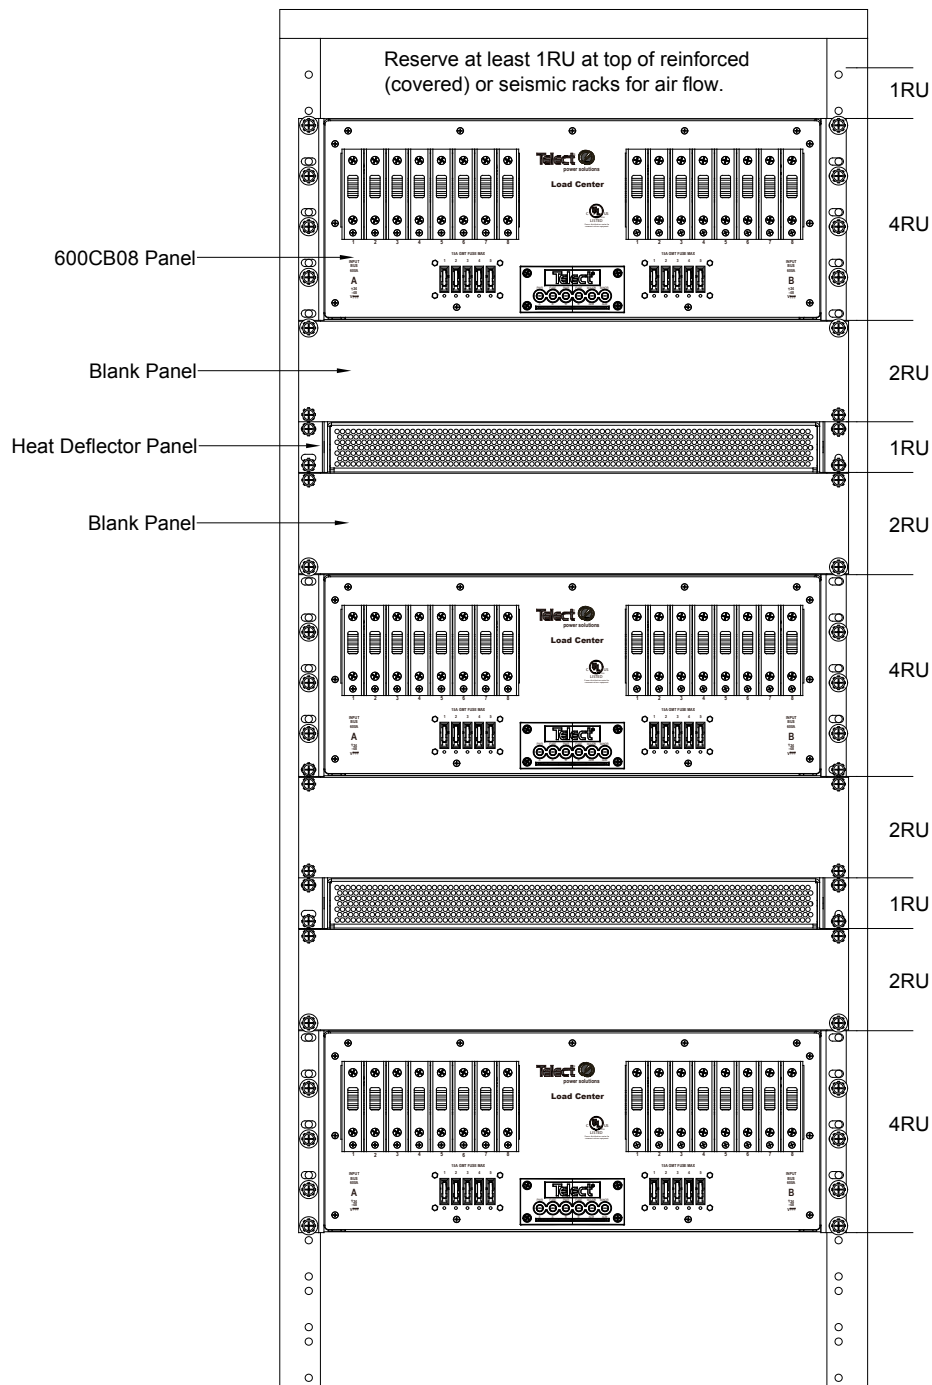

Figure 6 - Heat Management for Multiple Load Centers in a Single Rack
3. Tighten the screws to 35 in.-lb (4.29 N•m). Telect recommends using a seismic rack for best rigidity. Also, If you intend on installing more than one panel per rack, you need to plan a rack arrangement that dissipates heat efficiently, as suggested in Figure 6, "Heat Management for Multiple Load Centers in a Single Rack" on page 7.